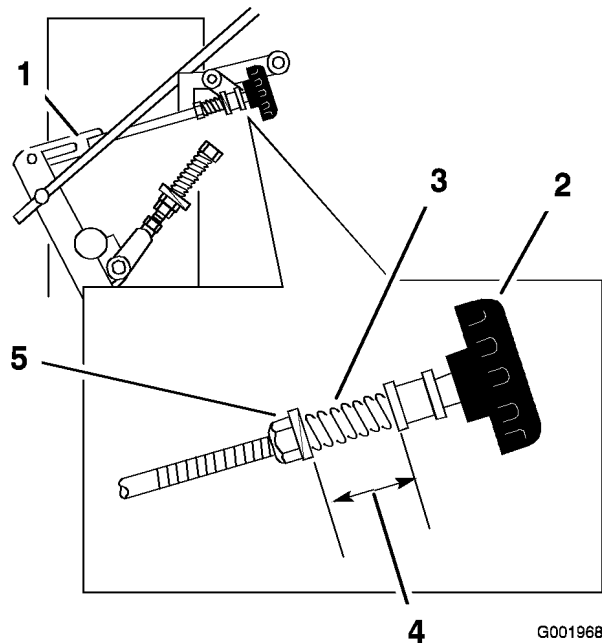

Figure 50
4. Adjust the right side linkage by turning the quick track knob counterclockwise until the tire begins to rotate forward (Figure 50).
5. Turn the knob clockwise a 1/4 of a turn at a time. Then move the speed control forward and back to neutral. Repeat this until right wheel stops rotating forward (Figure 50).
6. The spring that keeps tension on the knob should normally not need adjustment. However if an adjustment is needed, adjust the length of spring to 1 inch (26 mm) between the washers (Figure 50).
7. Adjust the spring length by turning the nut at the front of spring (Figure 50).